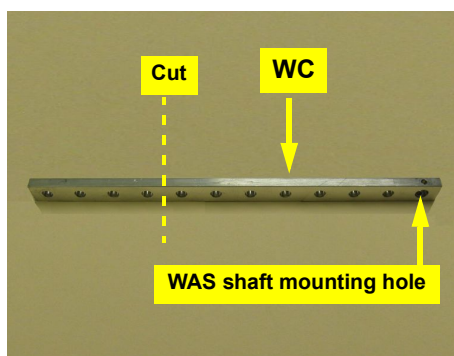

Figure 1b: WAS connector arm preparation
- b. Cut four holes off the WAS arm **WC** at the opposite end from the WAS shaft mounting hole (Figure 1b).